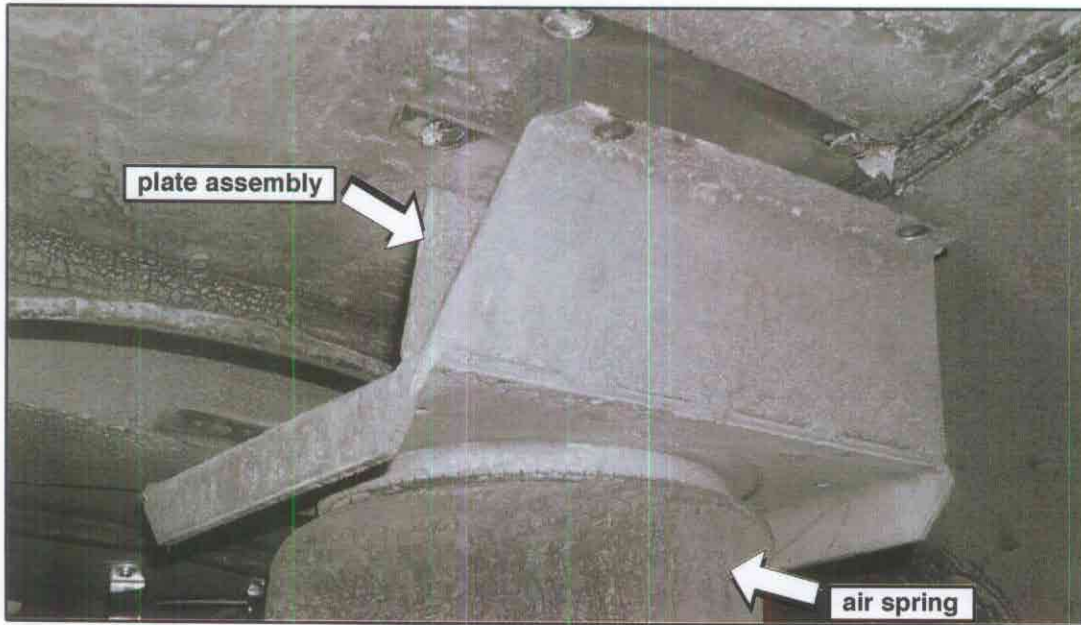

Figure 2.
- 5. Remove and discard the plate assembly mounting hardware (Figure 2).